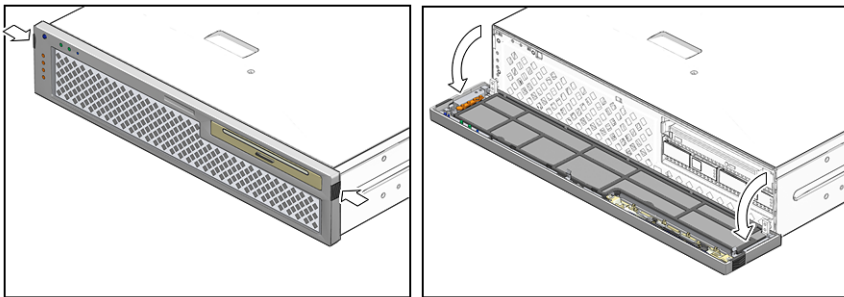

FIGURE 1-1 Finger Holds on the Bezel
1. Grip the bezel at the two finger holds and rotate it down to its open position (FIGURE 1-1).